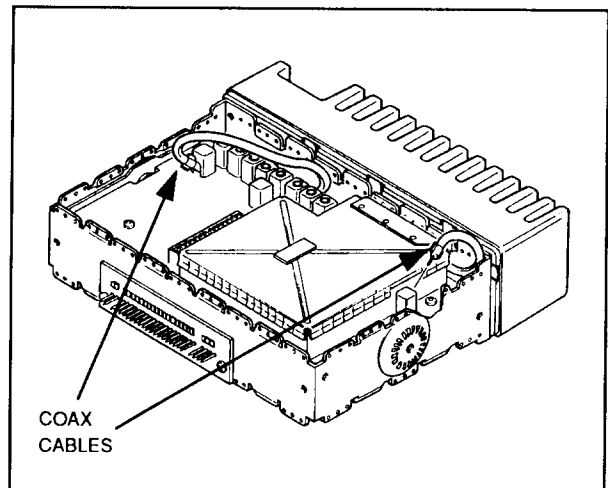

Figure 3.
- (1) Disconnect the transmit and receive coaxial cables from the RF board (figure 3).